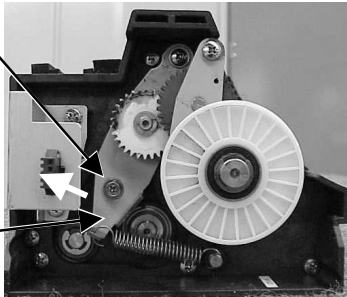

Figure 8
16. Put a piece of tape on each end of the Cleaning Roller to secure it (Figure 8).